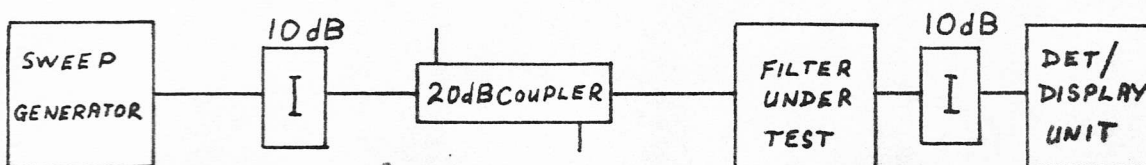

Fig. 2 Through Response
- 7.2.1 Connect the apparatus as shown in Fig. 2 replacing the filter under test with a link to obtain a 0dB reference line.